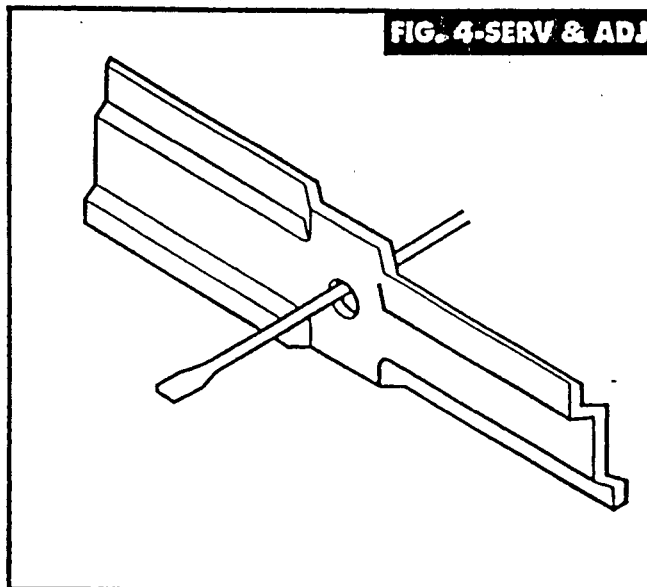

FIG. 4-SERV & ADJ
- The blade can be tested for balance by balancing it on a round shaft screwdriver or nail. Remove metal from the heavy side until it is balanced evenly (SEE FIG. 4-SERV & ADJ).